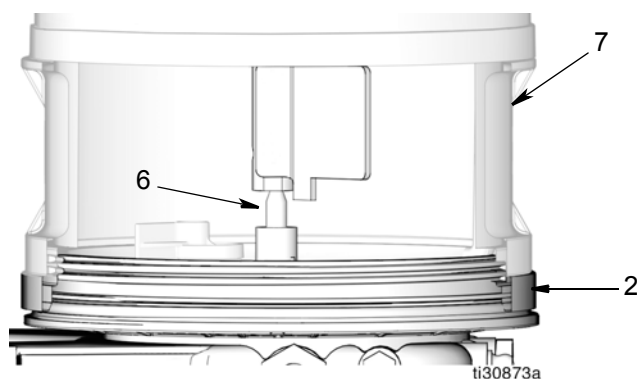

FIG. 6
3. Liberally grease the outer threads on the adapter ring (2) and the outside surface of the large o-ring (4).
4. Install the new Auto-fill Shutoff reservoir (7) over adapter ring (2).
NOTE: Be sure the end of the tube running through the center of the reservoir from the Auto-fill Shutoff is seated over the pointed end of the alignment pin (6) (FIG. 6).